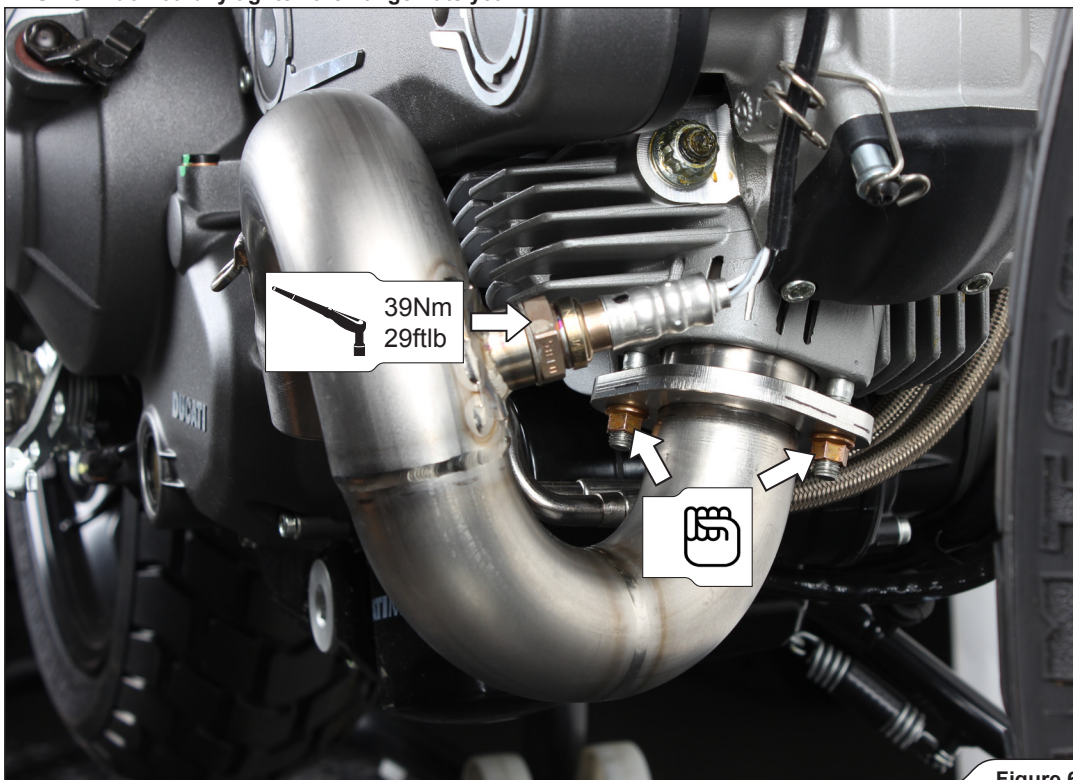

Figure 6
1. Hand tighten the front header onto the cylinder head (using stock nuts) and tighten the lambda sensor into the header (Figure 6).